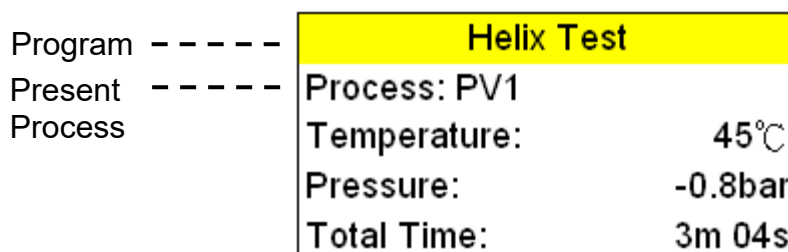

Figure 92
- F. Press  button to star the Helix Test Program, as shown in Figure 92.